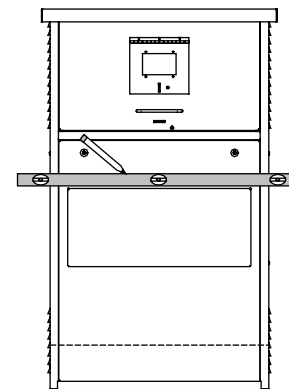

Fig. 2
1. Using a 4-ft level and a pencil, mark the front of the enclosure where you want to place the top side brackets and bar. See recommended placement specifications available at www.alpha.com (P/N 745-847-C1-001). See Fig. 2.